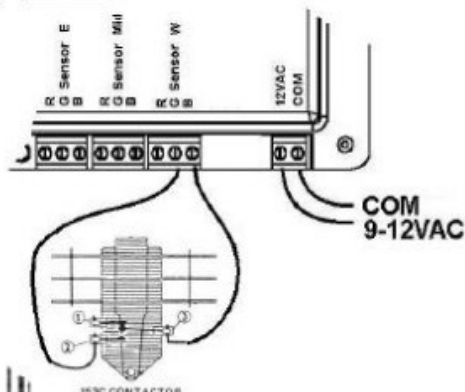

FIGURE 4
- 1) Create sections of isolated rail as shown in Figure 2 or 3. They should be longer than the length of your trolley. The EAST/WEST end sensors (isolated rails are shown) are necessary for point to point operation and the MID sensor is optional. With Lionel track isolated rail is difficult, because each metal tie connects the outside rails together. If you are using Lionel type track, then DZ-1210 Sensors, DZ-1011 Block signal/sensors, or Lionel contactors may be used. (Wiring for these options is shown in Figures 4 & 5.)